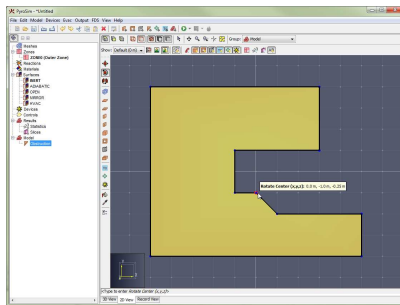

Figure 94. Click rotation center
3. Single-click to specify the rotation center (Figure 94).